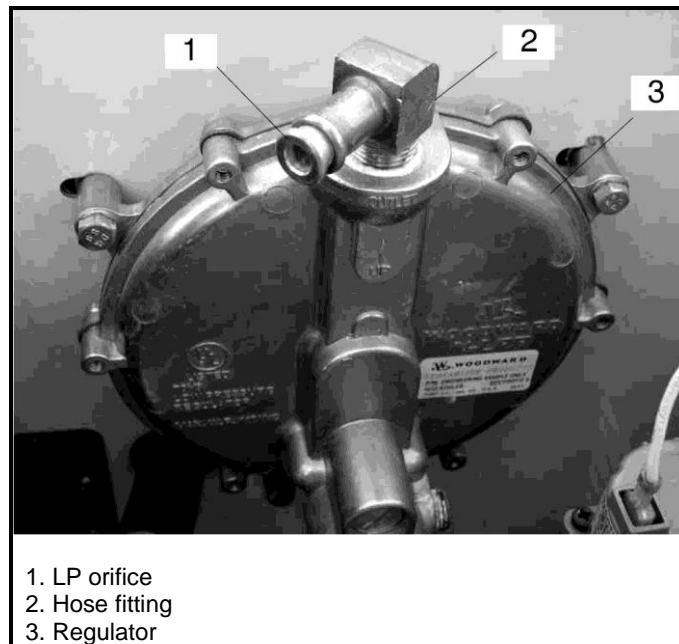

Figure 2.23: LP fuel orifice, RES 18 EC / RES 16 TEC
9. Place the orifice into hose fitting. See figure 2.23.